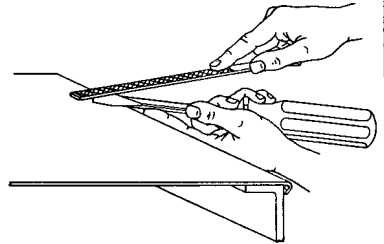

Figure 5. Restoring Tip of Screwdriver
- e. Restore the width of the tip as close to its original size as possible with the file (see Figure 5).